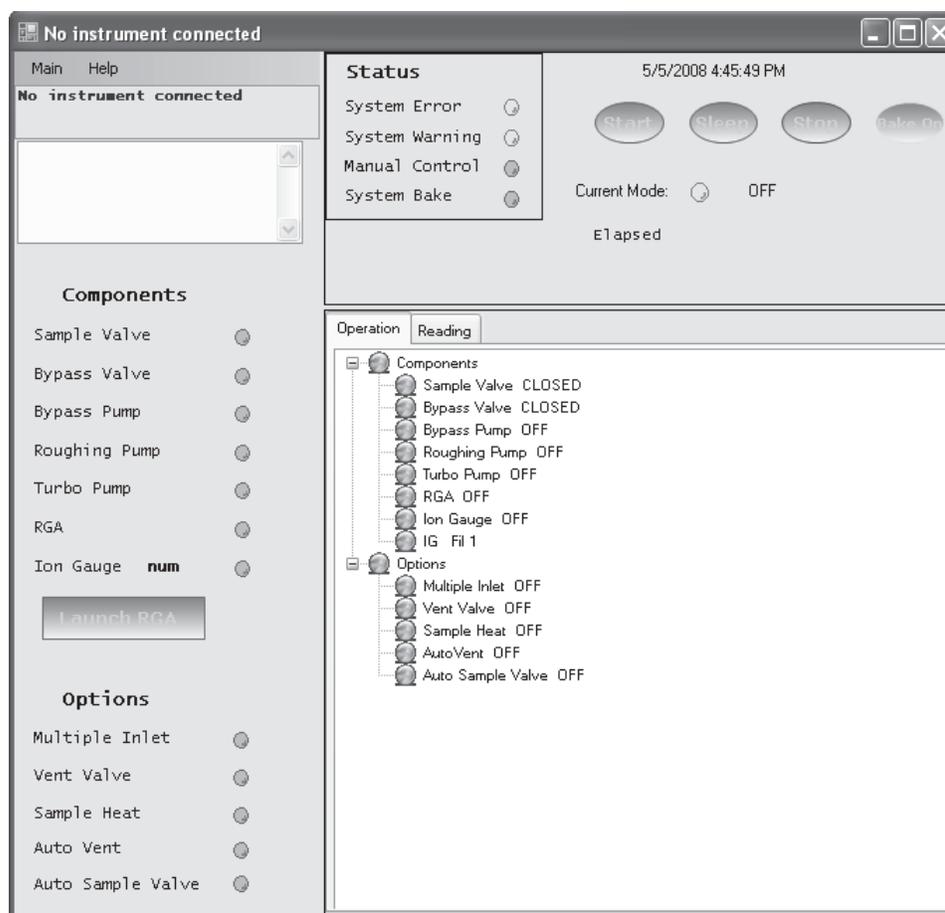

Fig. 2-3 Screenshot of the initial window of UGA control software.
A full featured software application included with the instrument provides an intuitive graphical user interface to the controls (See figure 2-3). All pumps, valves and heaters can be controlled from within the software. Every operation that takes place (valve open or close, pumps turned on or off, heaters activated, etc.) is logged as a time stamped "event" by the software. The event log is stored as a file on the PC hard drive. This log can be very useful for troubleshooting: if a user finds the UGA's interlocks activated while he was away, the event log will show what gauge registered an overpressure and when. This allows the user to track exactly where a problem began instead of guessing what went wrong. This can save hours of time in debugging a vacuum process.
4. Select or double click 'UGA.exe'. You should see the screen above. (Fig. 2-3)